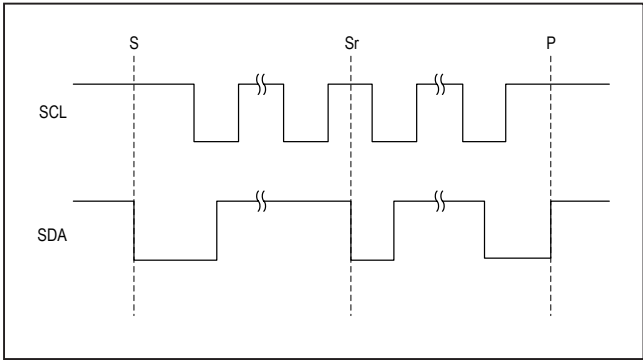

Figure 3. START, STOP, and Repeated START Conditions
A master device initiates communication by issuing a START condition. A START condition is a high-to-low transition on SDA with SCL high. A STOP condition is a low-to-high transition on SDA while SCL is high (Figure 3). A START (S) condition from the master signals the beginning of a transmission to the device. The master terminates transmission, and frees the bus, by issuing a STOP (P) condition. The bus remains active if a Repeated START (Sr) condition is generated instead of a STOP condition.